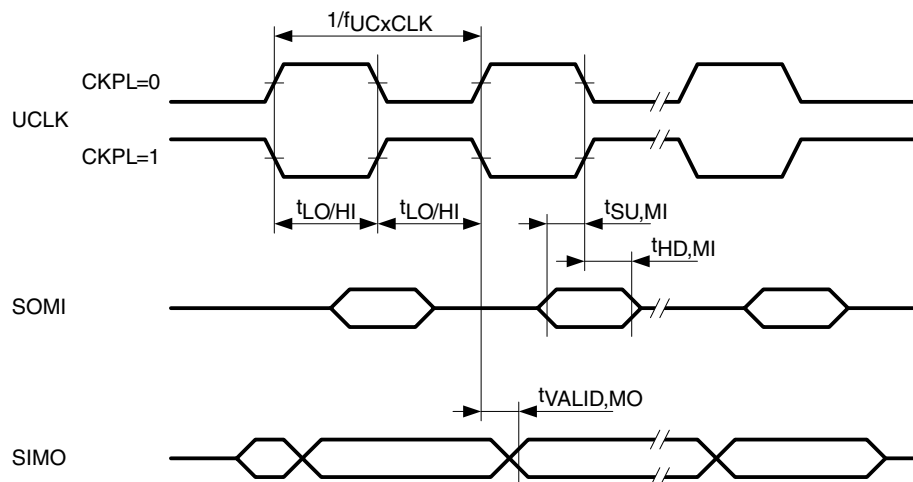

Figure 21. SPI Master Mode, CKPH = 0
**USCI (SPI master mode) (see Figure 21 and Figure 22)**